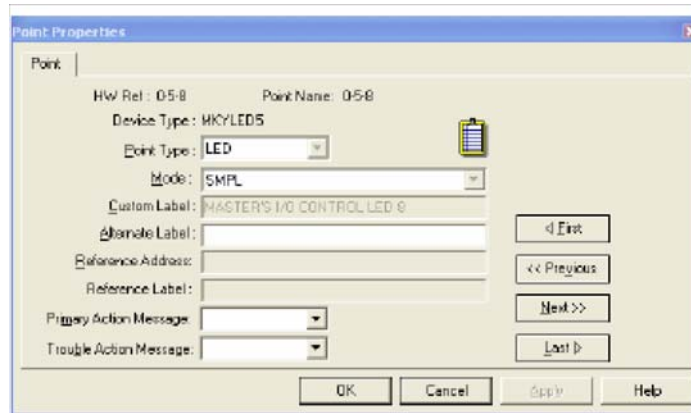

Figure 7-12. Typical Programming Screen for LEDs/Switches
Function Keys (CPU Card only), LED and Switch points can be programmed from either the Hardware Tab or the Point Tab. The Hardware tab lists points on a per-card basis, whereas the Point Tab lists all points in the system. (Figure 7-12 shows the Hardware Tab point editing screen; the Point Tab programming screen is similar. Some fields, such as device type, may only be available from the Hardware Tab point editing screen.)
Hardware Tab	<ol style="list-style-type: none"> 1. Click on the Hardware Tab. Click on the + signs to the left of the Unit 0, Box1, and Bay1 icons. 2. Double click on the card icon labeled (slot4) (xxx) 4100-000-CPU. A card-specific dialog box, containing four tabs, appears. 3. Click on the Display tab. A window similar to the one shown in Figure 7-12 appears. Click on the Display checkbox. 4. Click on the LED or Switch point.
Hardware Tab	<ol style="list-style-type: none"> 1. Click on the Hardware Tab. Click on the + signs to the left of the appropriate Unit, Box, and Bay icons. 2. Double click on the card icon (LED and Switch Display Card, LCD Annunciator, RCU, SCU, InfoAlarm or 24 I/O) containing the LED or switch point you want to edit. A properties window similar to the one shown in Figure 7-12 appears. 3. Click on the LED or Switch point.
1. Double click on the card's icon in the Hardware window. A window similar to the one shown in Figure 7-12 appears.